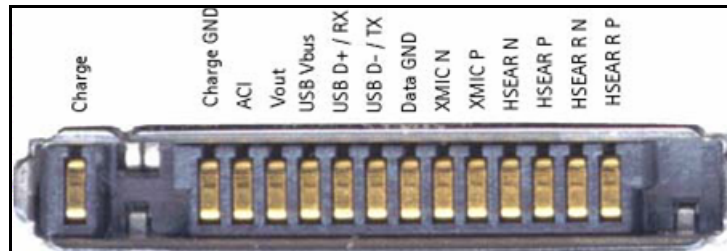

Figure 39: System Connector
The system connector is the Pop-port connector as shown in Figure 39. The mobile terminal supports Pop-port (differential) and Universal Headset (single-ended) accessories. The ACI signal detects the Pop-port accessory, while TIKU_GENIO(4) detects the Universal Headset.